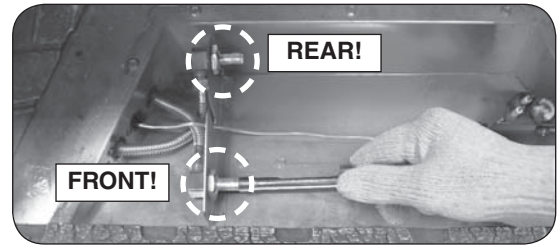

Fig. 4-1 Remove old & install new orifice(s)
1. Remove the front and rear burner orifice(s) using a $\frac{3}{8}$ " nut driver (see Fig. 4-1).